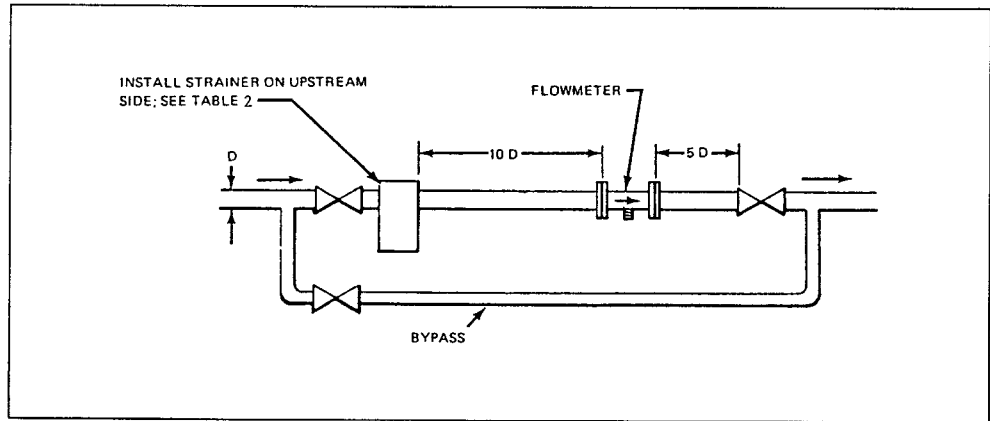

Figure 16. Flowmeter Installation
Install flowmeter (Figure 16) so that it is free of magnetic field effects and vibration. In general, do not locate it within 3 m(10 ft) of heavy electrical equipment.
When flow is stopped, close downstream shutoff valve (Figure 16), to keep system full.
1. Before liquid is allowed to flow through flowmeter (see Figure 16), remove flowmeter, and install a length of pipe in its place.